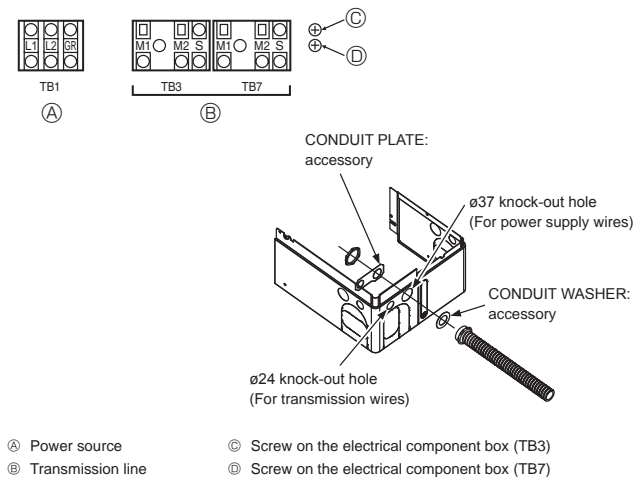

Fig. 6-1
6.2. Control box and connecting position of wiring (Fig. 6-1)
- Connect the wiring between the outdoor unit and the indoor unit to the transmission terminal block (TB3) of the outdoor unit. Connect the wiring between the outdoor unit and the centralized control system to the transmission terminal block (TB7) of the outdoor unit. When using shielded wiring, connect the ground of the shielded wiring to the shield terminal (S) of the terminal block (TB3) or (TB7). If the connection of the outdoor unit's transmission power supply connector has been changed from CN41 to CN42, connect the shield terminal (S) of the terminal block (TB7) to the screw (④) using the included lead wire.
- * The shield (S) terminal of the transmission terminal block (TB3) is connected to the ground (④) when the unit is shipped from the factory.